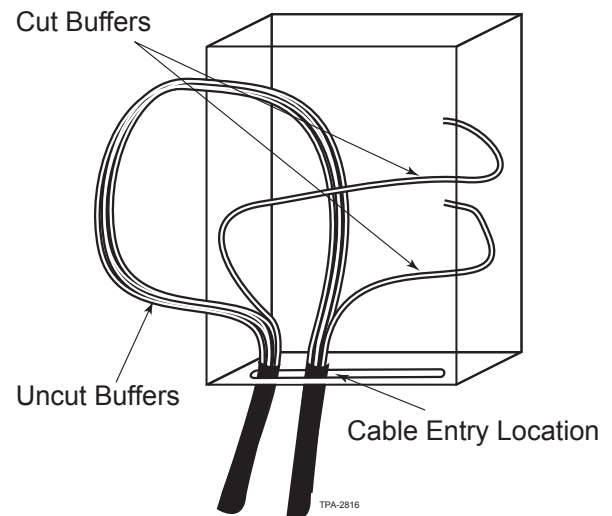

Figure 5 — Multifiber Tube Preparation
**Step 5:** Multifiber tube cable is prepared as shown in Figure 5. A mid-span entry kit is required to access the fiber in one buffer tube of a multifiber tube cable without disturbing the other buffer tubes. Refer to “Section 2. Accessories” for part number information. Follow instructions provided with the kit to replace the end plate on the enclosure with the plate from the mid-span kit.